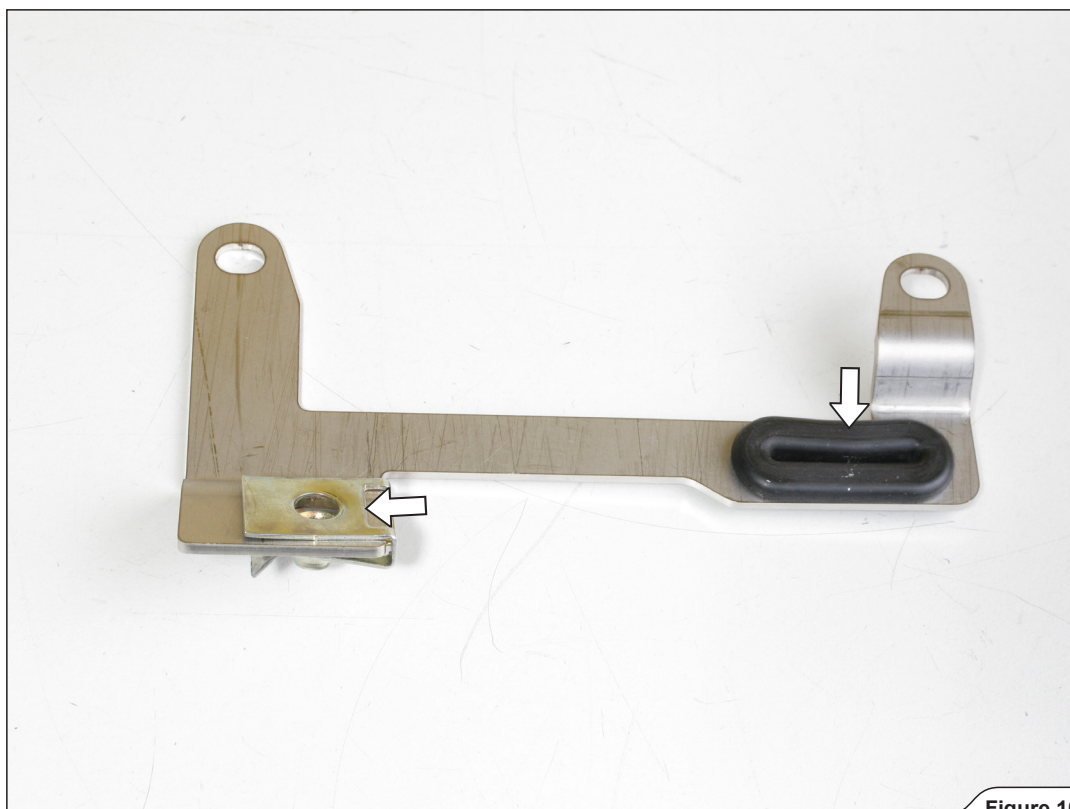

Figure 10
3. **For Z1000 model only:** assemble stock rubber damper and press-on nut from Akrapović installation kit, onto the additional bracket (**Figure 10**).